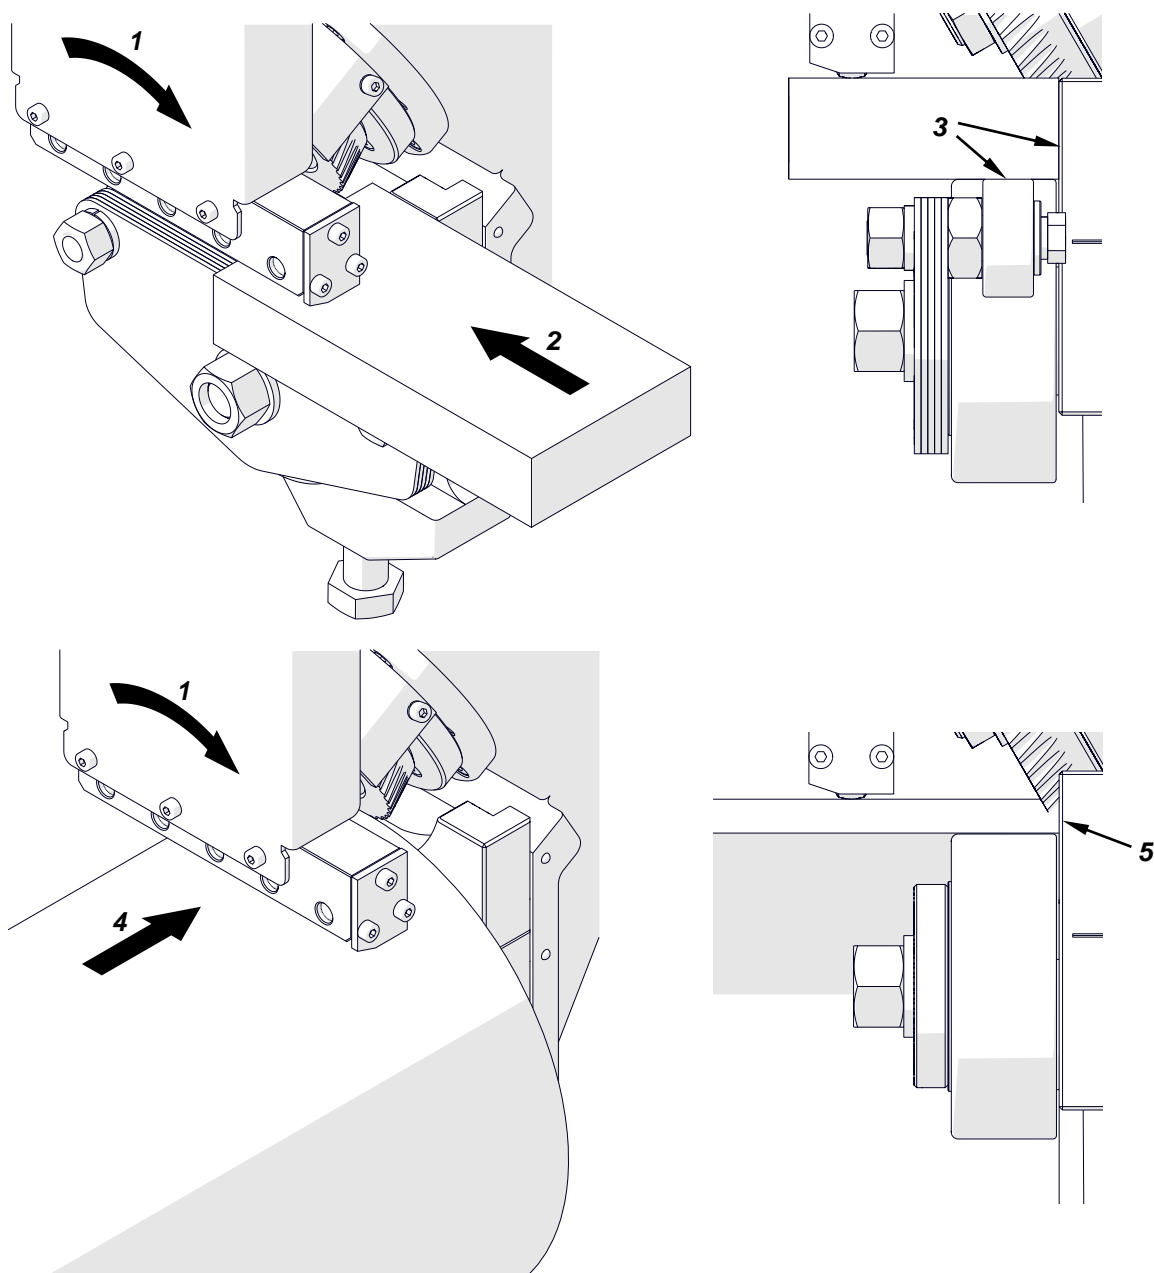

Fig. 4. Beveling plates or pipes
Connect the machine to the power source and use the power switch to turn on the power. Open the top air vent valve. Set the rotation direction switch to “1” and make sure that the cutter rotates in direction (1, Fig. 4). If it rotates in the opposite direction, set the switch to “2”. Next, put the plate (2) so that it is on the slide and the support rollers (3). To bevel a pipe, put it on the guide roller, move it to the slide (4, 5), and keep the pipe in this position.
After you start the milling, the workpiece moves automatically. To bevel the plate from the bottom, put the machine upside down and move the plate to the direction opposite to (2, Fig. 4).